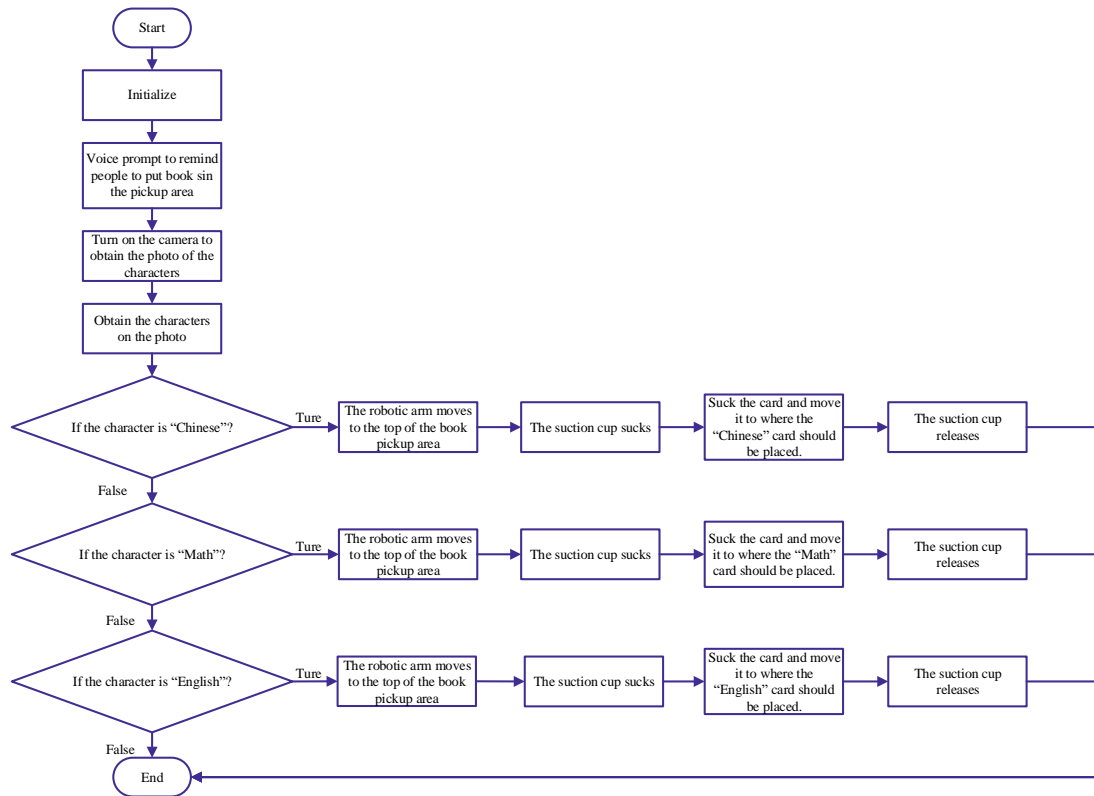

Figure 5.18 The flowchart of OCR book returning program
(2) Design Program
Step 1: Design the program flowchart, as shown in Figure 5.18.